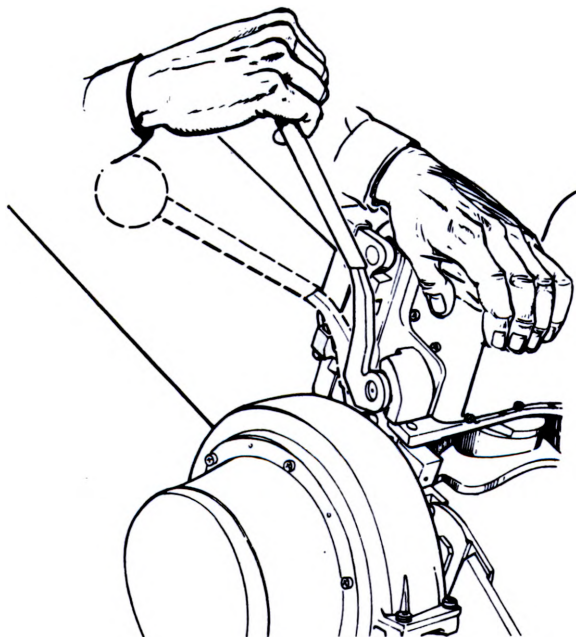

Figure 5. Lowering the bridge clamp.
f. To lower the bridge clamp, push down on top of the bridge clamp with one hand and close the locking handle with the other hand (fig. 5).